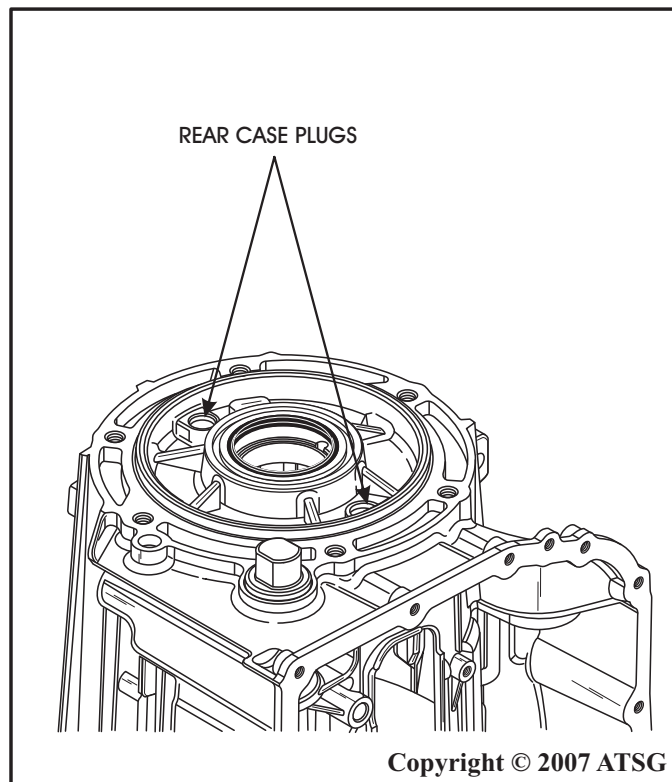

Figure 58
13. Install new case plugs as necessary, as shown in Figure 58.